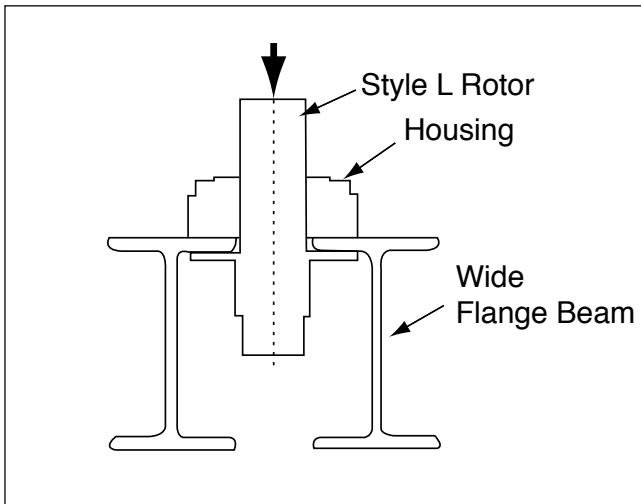

Figure 18
3. Insert capscrews in threaded holes of rotor flange. Use these screws to push rear spacer off rotor. Screws must be turned evenly and progressively to avoid binding. Because of the extended length of the rotor on a Style L clutch, it will be necessary to press the rotor through the housing with an arbor. Support the clutch by the housing as shown in Figure 18 and push the rotor through the housing.